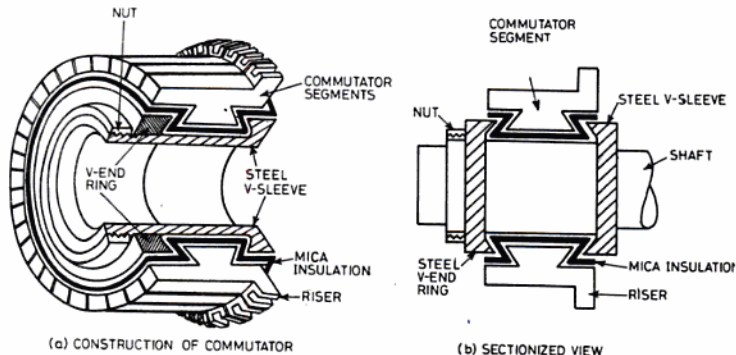

Fig. 7.4 Construction of commutator
**Commutator** It is an electrical device which automatically reverses the direction of the coil. It is cylindrical in shape and consists of a number of copper segments of high conductivity, hard-drawn copper, insulated from each other as well as from the shaft by mica (Fig. 7.4).